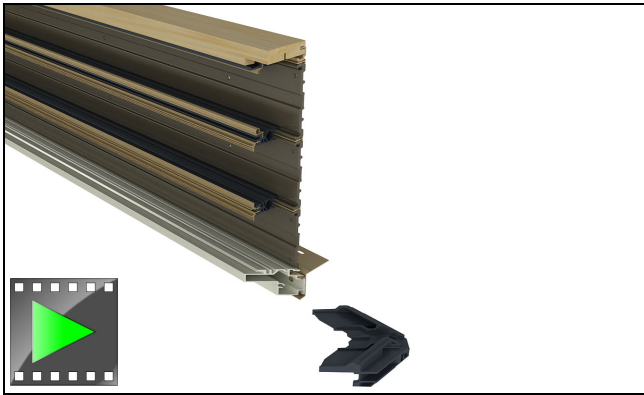

Figure 36
1. Lay out the four sides of frame and insert frame cladding corner keys into head jamb. See figure 36.